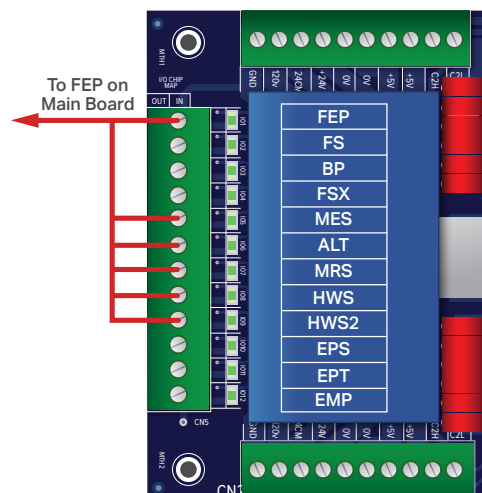

Figure 1: Typical I/O Expansion Board
- Add temporary connections on the GALX-1102 Main I/O Board and Expansion I/O boards as shown in **Figures 1, 2, 3, and 4**.